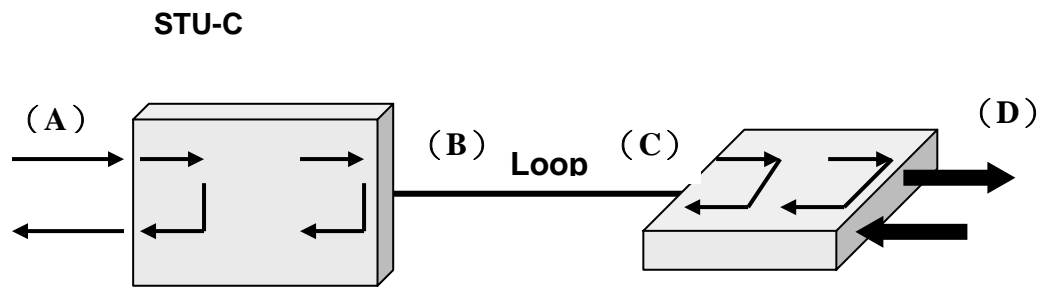

Figure 2.2 Local DSL Loopback
The local loopback capability is set up inside STU-C/STU-R as close as possible to the loop interfaces. The local loopback is capable of control (activation and deactivation) by CID. The received signal is sent to the loop during local loopback. For example, if local loopback is activated at STU-C, the direction of local loopback would be like (B) in figure 2.2